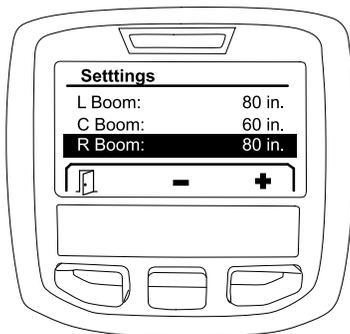

Figure 16
2. Use the middle selection button or the right selection button to increase or decrease the selected sprayer section width (Figure 16).